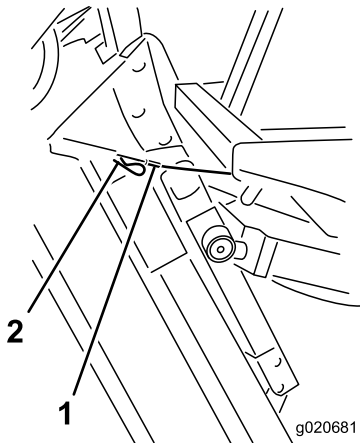

Figure 103
6. Hold the cutting unit upright, fit the cable end over the pin on the cutting unit lift arm and secure it with the hairpin cotter (Figure 103).